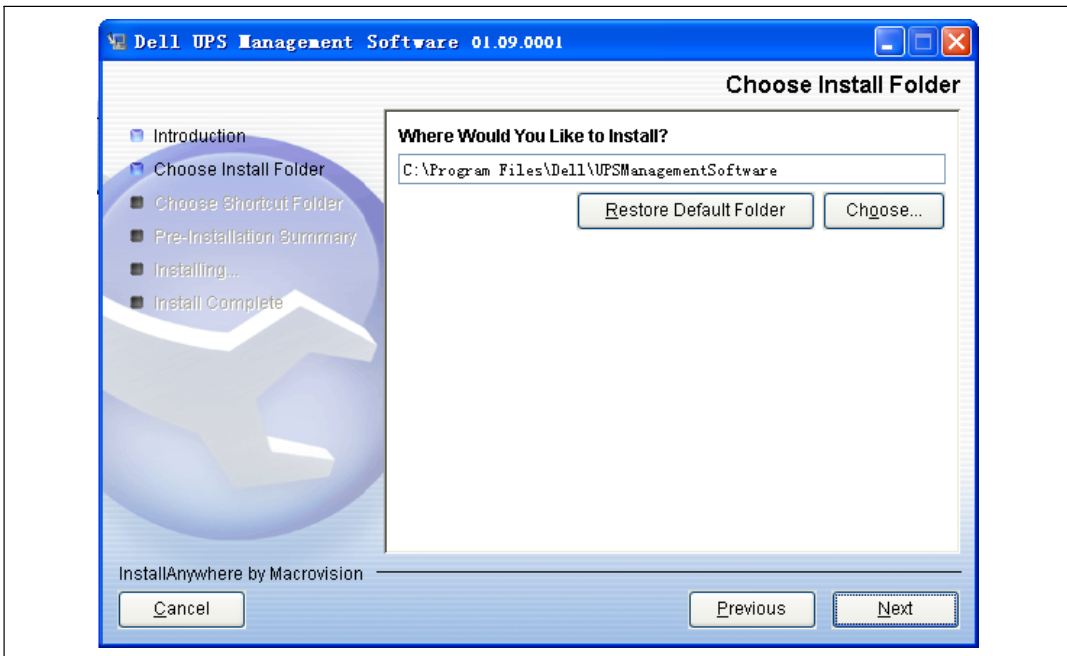

Figure 13. Choose Install Folder Window
- 6 By default, the software installs to C:\Program Files\Dell\UPS Management Software. Update the location if needed and click Next (see Figure 13).